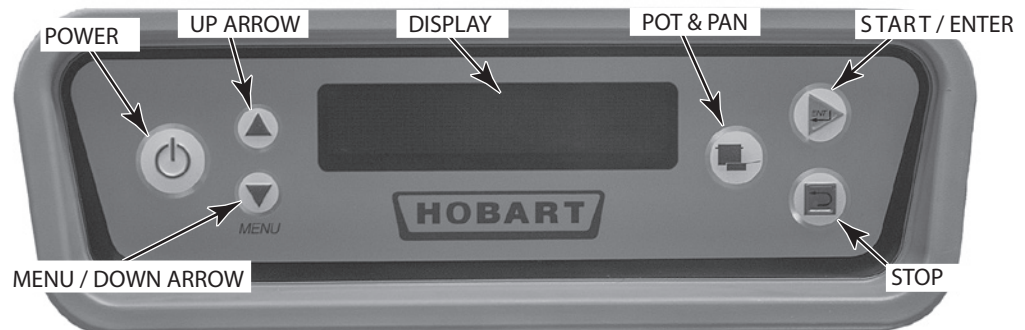

Fig. 30
The controls are mounted on top of the dishwasher. The Keypad and Display are mounted in front of the control box (Fig. 30).
Close all doors. To begin filling after the machine is ready, press the POWER key (Fig. 30).
5. Press the POWER key on the keypad (Fig. 30). Dishwasher will fill automatically (refer to Filling the Dishwasher, this page). After the tank has filled, the burner will ignite if heat is required. The ignition system includes a 15-second pre-purge period before ignition occurs.
6. If the dishwasher will not operate, press the POWER key on the keypad (Fig. 30) and turn the manual gas valve Off. Call your local Hobart service office or gas supplier.
After the machine has filled, start the pumps by pushing the START/ENTER key on the keypad (Fig. 30) or by inserting a rack into the machine.
The conveyor dwell feature, standard, allows the operator to stop the conveyor in order to wash heavily soiled dishes for a longer time. Press the DOWNARROW located on the keypad (Fig. 30) until the '<' symbol is shown to the left of 'CONVEYOR DWELL'. When the dish rack reaches the wash zone, press the ENTER key on the keypad (Fig. 30) to momentarily stop the conveyor. To restart the conveyor, press the START/ENTER key on the keypad (Fig. 30). **NOTE:** On all CLeN models (except the VL models), the unit will continue to run in dwell mode until the ENTER or STOP key is pressed. On CLeN-VL models, the unit will stop after 30 minutes of dwell time.
If the rack jams or if the load becomes excessive, an overload mechanism shuts off the conveyor drive motor and 'Clear Conveyor Jam' displays. Open the doors and remove the jam. After the jam is cleared, close the doors and push the START/ENTER key on the keypad (Fig. 30) to restart the dishwasher.
All tank temperatures are shown on the Display (Fig. 30) when the machine is in operation. The Final Rinse temperature displays --- until a rack is in the rinse zone; then, the Final Rinse water temperature displays. After the ware exits the rinse zone, the Final Rinse temperature display returns to ---.
The pot and pan feature, standard on all CLeN models, allows the operator to wash heavily soiled pots and pans by indexing the racks thru two pre-set wash zones for a specified amount of time. The wash times can be adjusted in the Parameters Menu, refer to page 36. Push the POT and PAN key located on the keypad (Fig. 30) to enter the pot and pan mode. Insert rack into machine. Each rack will index twice thru wash zone by the pre-set time. The machine will return to normal operation by pressing the POT and PAN key or the STOP key, or if the Auto Timer times out.
To conserve energy, if no rack enters the machine for a preset amount of time, the Auto-Timer counts down and the pumps and conveyor shut off. Tanks continue to heat, and tank temperatures display. To resume operation, insert a rack or press the START/ENTER key on the keypad (Fig. 30).
After a period of machine inactivity, the control initiates Energy Saver Mode (ESM): All warewasher components are turned off, and the display on the control dims, displaying 'Energy Saver Active/Press STOP to Exit'. To exit Energy Saver Mode, press the STOP key (Fig. 30). You may press the POWER key to completely turn the machine off. The period of machine inactivity prior to ESM can be set from 1 to 6 hours in the Parameters Menu; 2 hours is the factory setting. Refer to page 36.
1. Press the POWER key on the keypad to turn the machine Off (Fig. 30).